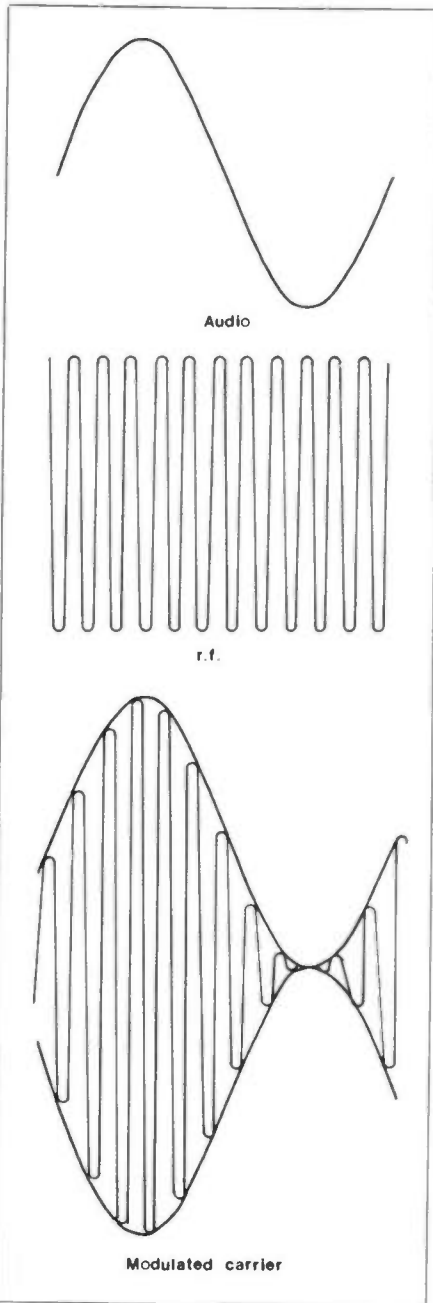
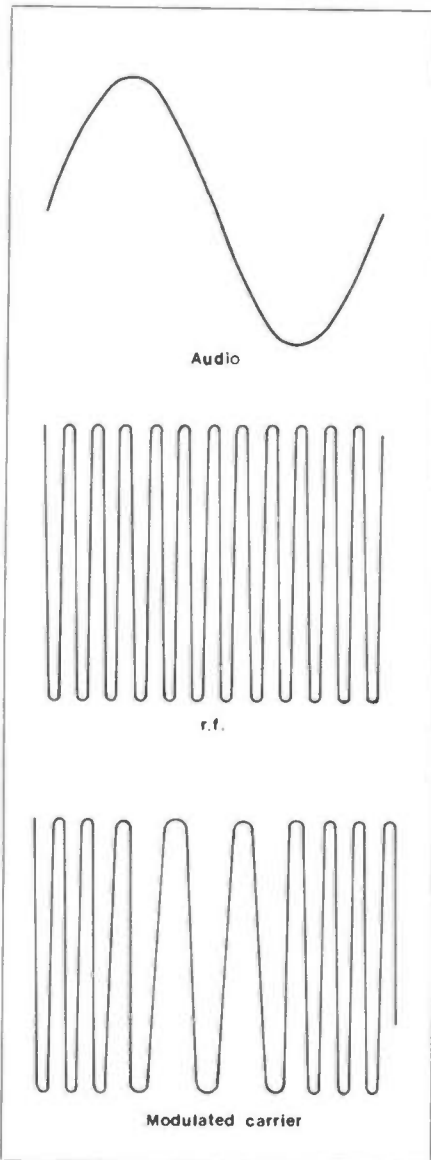
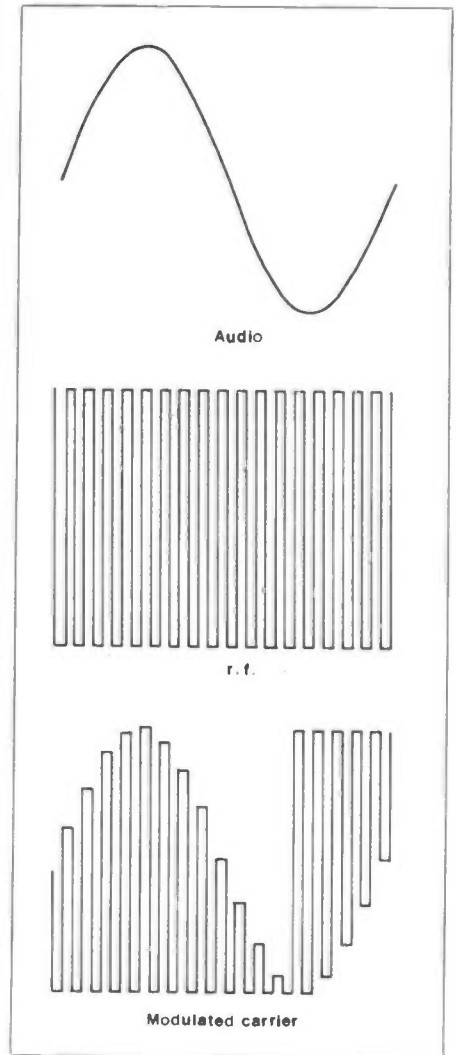
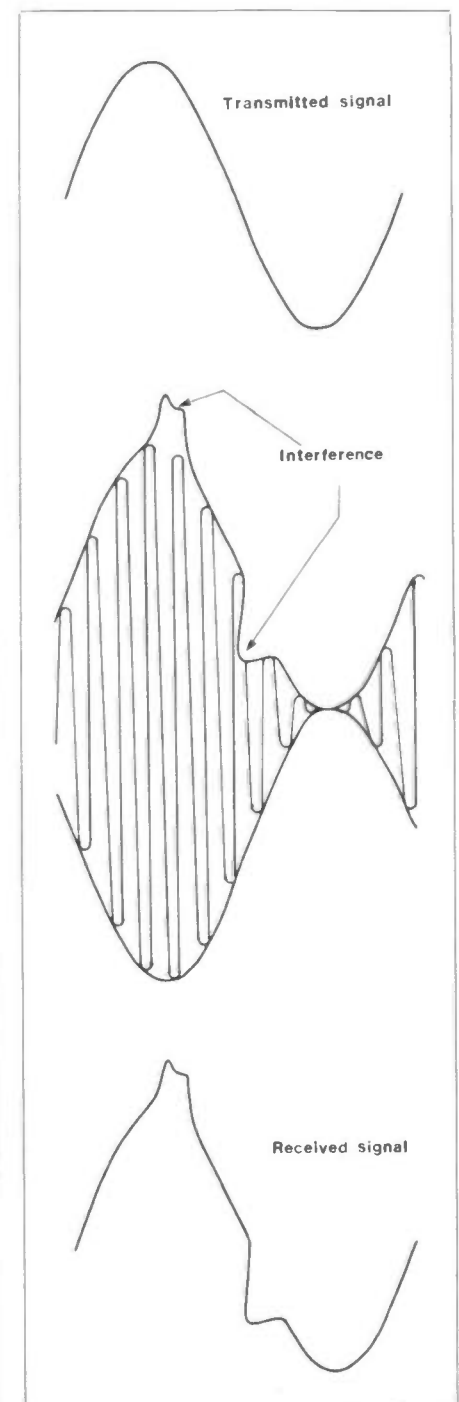

Figure 1. Amplitude Modulation
Figure 2. Frequency Modulation
Figure 3. Pulse Amplitude Modulation
Figure 6. Noise Interference
Most people are familiar with Amplitude Modulation (AM) and Frequency Modulation (FM). As a quick revision, Figure 1 shows how an audio signal amplitude modulates a radio frequency carrier. Similarly, Figure 2 shows a frequency modulated carrier. If we choose to use pulse techniques, there is a choice of Pulse Amplitude Modulation (PAM), Pulse Position Modulation (PPM), Pulse Width Modulation (PWM) and Pulse Code Modulation (PCM). Figure 3
The main advantage of digital transmission, whether by radio or cable, is its immunity to noise. If an amplitude modulated signal suffers from noise interference, then the demodulated audio signal is distorted, as shown in Figure 6. Although the PAM signal in Figure 3 is a digital system in that it employs pulses, it is amplitude modulated and hence suffers the noise problems of any amplitude modulated wave. However, in a pulse system where the pulse heights are constant and some other method is used to code the signal, noise immunity will be greater, provided the noise does not exceed the threshold of the detector.